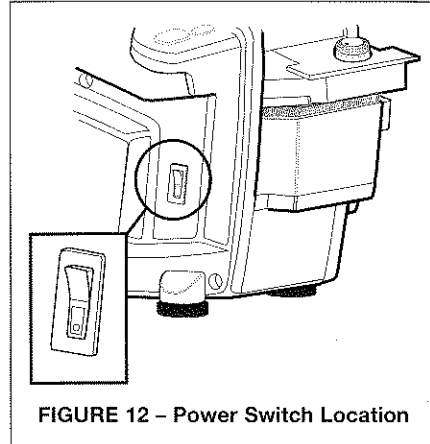

FIGURE 12 – Power Switch Location
1. Ensure that the power switch is in the OFF (down) position. *See Figure 12.*